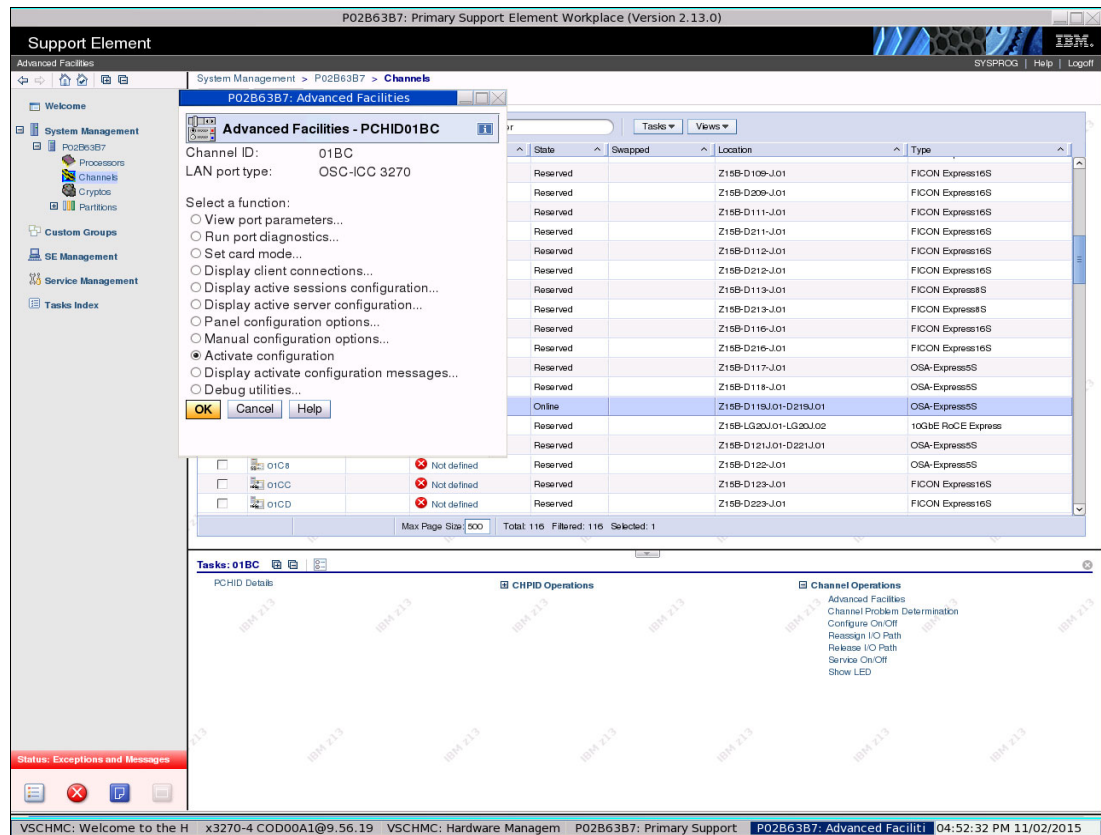

Figure 7-17 Activation configuration option
1. In the Advanced Facilities panel (see Figure 7-17), we click **Activate configuration** and then, **OK**.